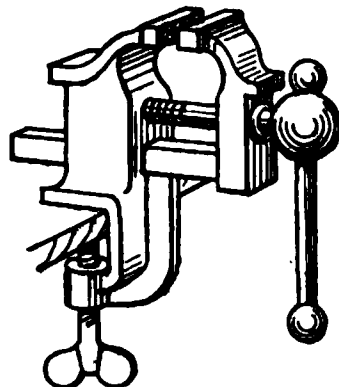

FIG. 39. — Machinist's vise.
8. The pitch of the screw of a bench vise (Fig. 39) is 0.2 inches and the handle of the screw is 7 inches long.